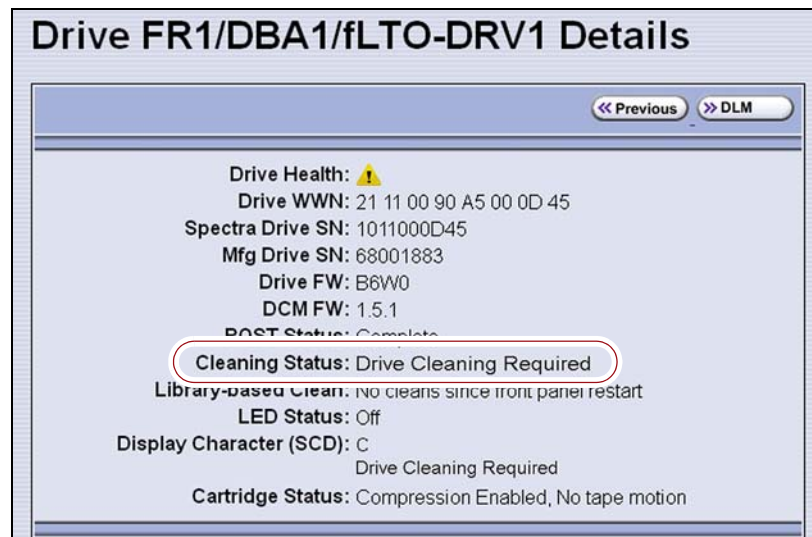

Figure 238 The Cleaning Status indicates that cleaning is required.
Overview Whenever a tape is loaded or unloaded, the read/write heads are physically cleaned by a brush located within the drive. However, after reading and writing a large amount of data (the exact amount varies by drive type and generation) or if read or write errors occur, the drive requests to be cleaned with a cleaning cartridge. The request is made by sending a Tape Alert message to the host, and displaying a **C** on the SCD for an LTO drive or **CLEAN*** on the MCD for a TS11xx technology drive. The notification is also posted to the library's Drive Details screen (Figure 238 on page 415) and the DLM drive health icon for the drive changes to yellow (see Using the Drive Health Icons on page 291 for additional information).
- The Drive Details screen indicates that the drive needs cleaning or displays a **C** on the SCD for an LTO drive or **CLEAN*** on the MCD for a TS11xx technology drive (see Figure 238 on page 415).